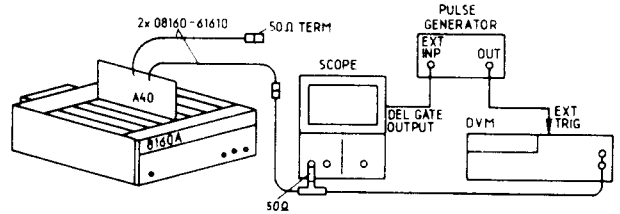
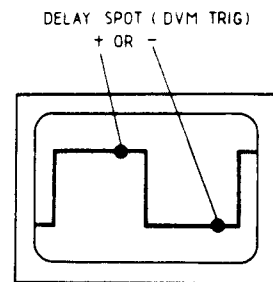

Figure 5-18
Figure 5-19
1. Connect equipment as shown in Figure 5-18 with pulse gen. to ext. trigger. Set scope and pulse generator to produce a display as shown in figure 5-19.
5. With same test set-up as before (Figure 5-18), set 8160A: PER 50 ms, WIDTH 25 ms, LEE 5 μ s, TRE 5 μ s.
6. Trigger DVM about 20 ms after LEE 80% (with scope delay - see figure 5-19).
10. Change DVM trigger by scope delay (figure 5-19) and measure bottom level.